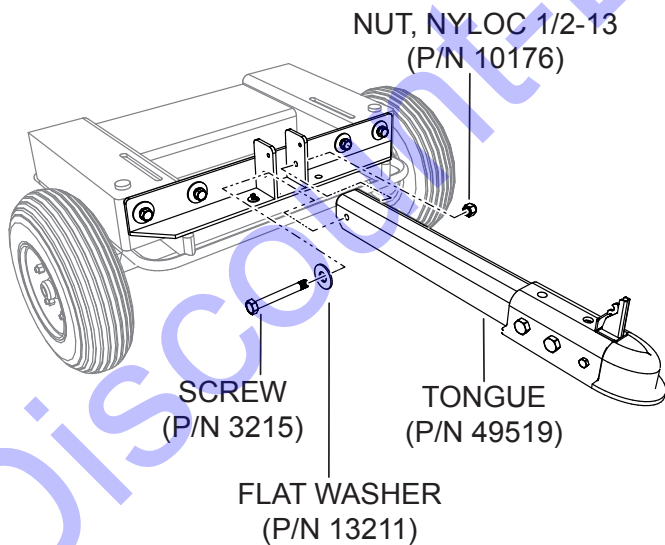

Figure 3. Hitch Adapter Tongue Installation
2. Install the tongue into the hitch adapter with the associated hardware as shown in Figure 3.